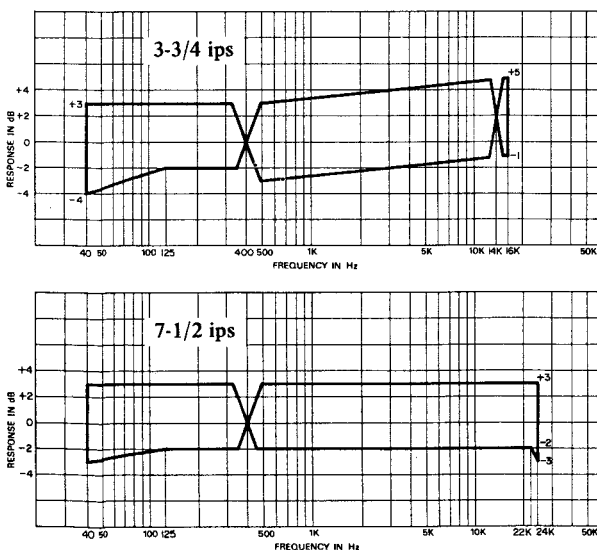

Fig. 8-10 Frequency Response – OVERALL – 1
20. During recording, monitor the Tape signal and adjust equalization L-301/L-303 for readings within the Response Limits charts. See Fig. 8-10 below.
22. Apply signal swept from 40 Hz to 24 kHz,  $-28$  dB (30.8 mV) and while monitoring the off-the-Tape signal check for readings within the Response Limits charts. See Fig. 8-10 below.